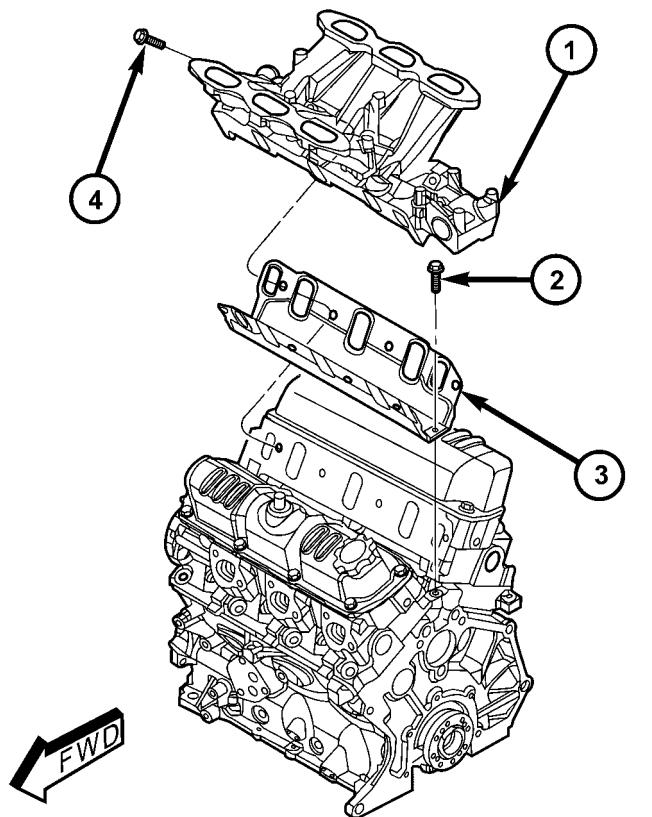
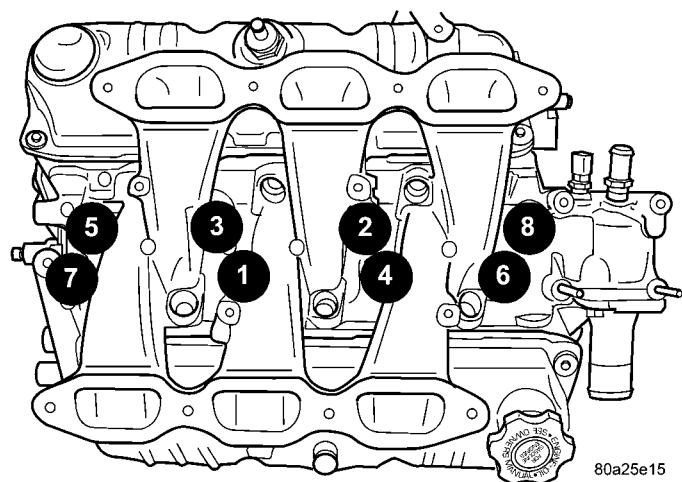

Fig. 122 INTAKE MANIFOLD - LOWER
Fig. 124 LOWER MANIFOLD TIGHTENING SEQUENCE
(9) Remove radiator upper hose.
(10) Remove the intake manifold bolts.
(11) Remove lower intake manifold (Fig. 122).
(12) Remove intake manifold seal retainers screws (Fig. 122). Remove intake manifold gasket.
(13) Inspect and clean manifold. (Refer to 9 - ENGINE/MANIFOLDS/INTAKE MANIFOLD - INSPECTION) (Refer to 9 - ENGINE/MANIFOLDS/INTAKE MANIFOLD - CLEANING)
(2) Carefully install the new intake manifold gasket (Fig. 122). Tighten end seal retainer screws to 12 N·m (105 in. lbs.).
(3) Install lower intake manifold (Fig. 122). Install the bolts and torque to 1 N·m (10 in. lbs.). Then torque bolts to 22 N·m (200 in. lbs.) in sequence shown in (Fig. 124). Then torque again to 22 N·m (200 in. lbs.). After intake manifold is in place, **inspect to make sure seals are in place**.
(4) Install the fuel injectors and rail assembly. (Refer to 14 - FUEL SYSTEM/FUEL DELIVERY/FUEL RAIL - INSTALLATION)
(5) Connect fuel injector electrical harness.